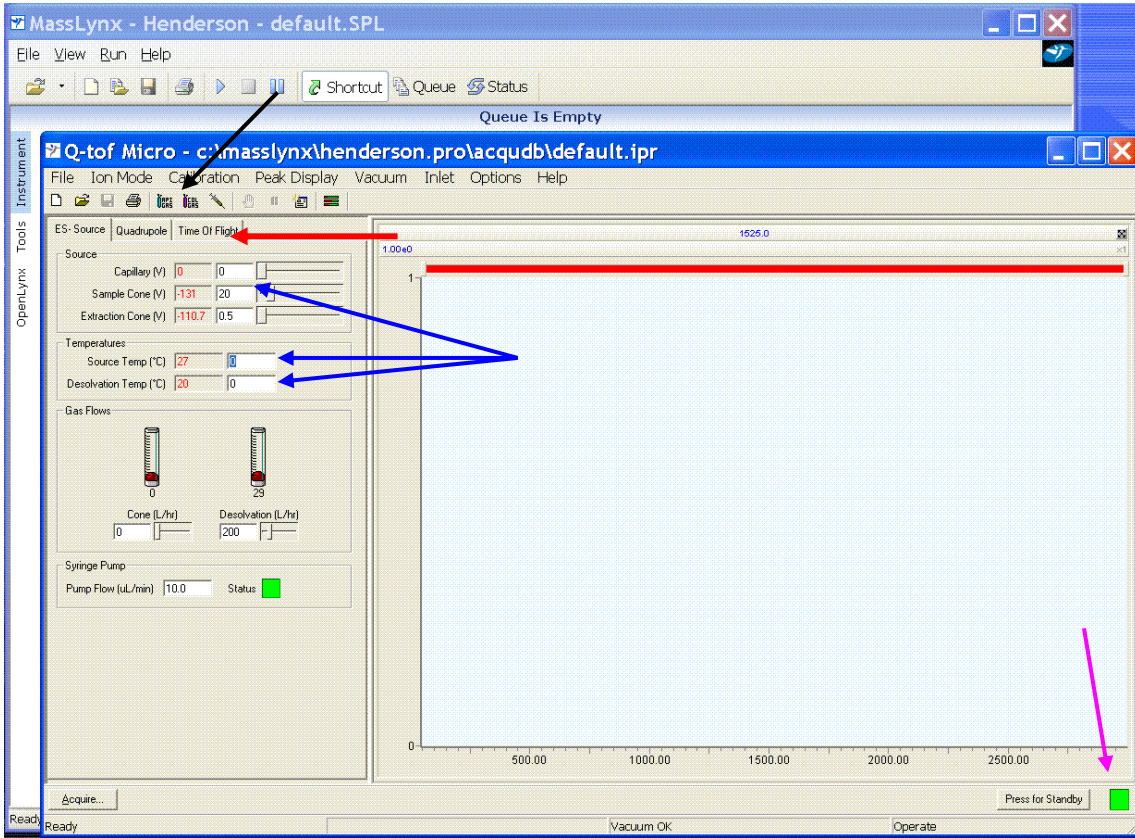
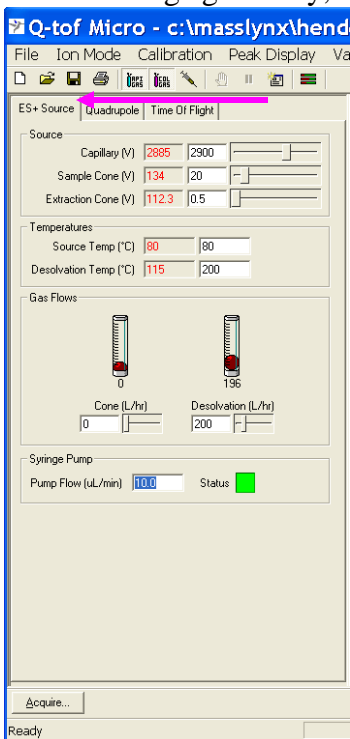
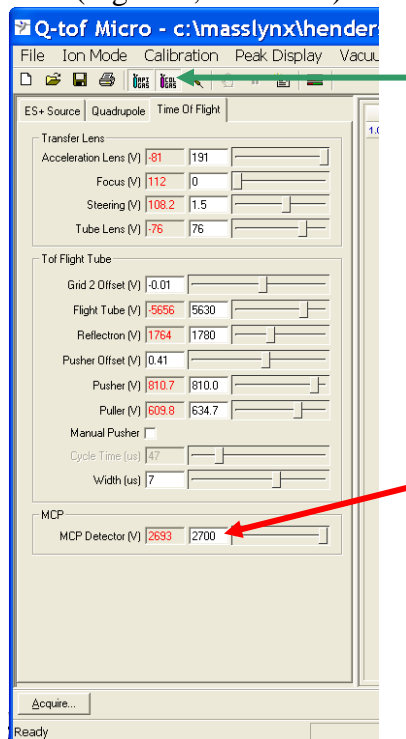

Figure 3
Figure 5
Figure 6
- b. Once you have done this, you must open the tune page by clicking on “MS Tune” from the left hand column. This will give the screen in Figure 3.
5. Now you can turn on all the gases and settings that were originally off in Figure 3. The values in the ESI-Source tab (pink arrow, Figure 5) should be set according to what you were told in the training course. Make sure you ramp up the MCP voltage gradually, in multiples of 300 to 2700 (Figure 6, red arrow).